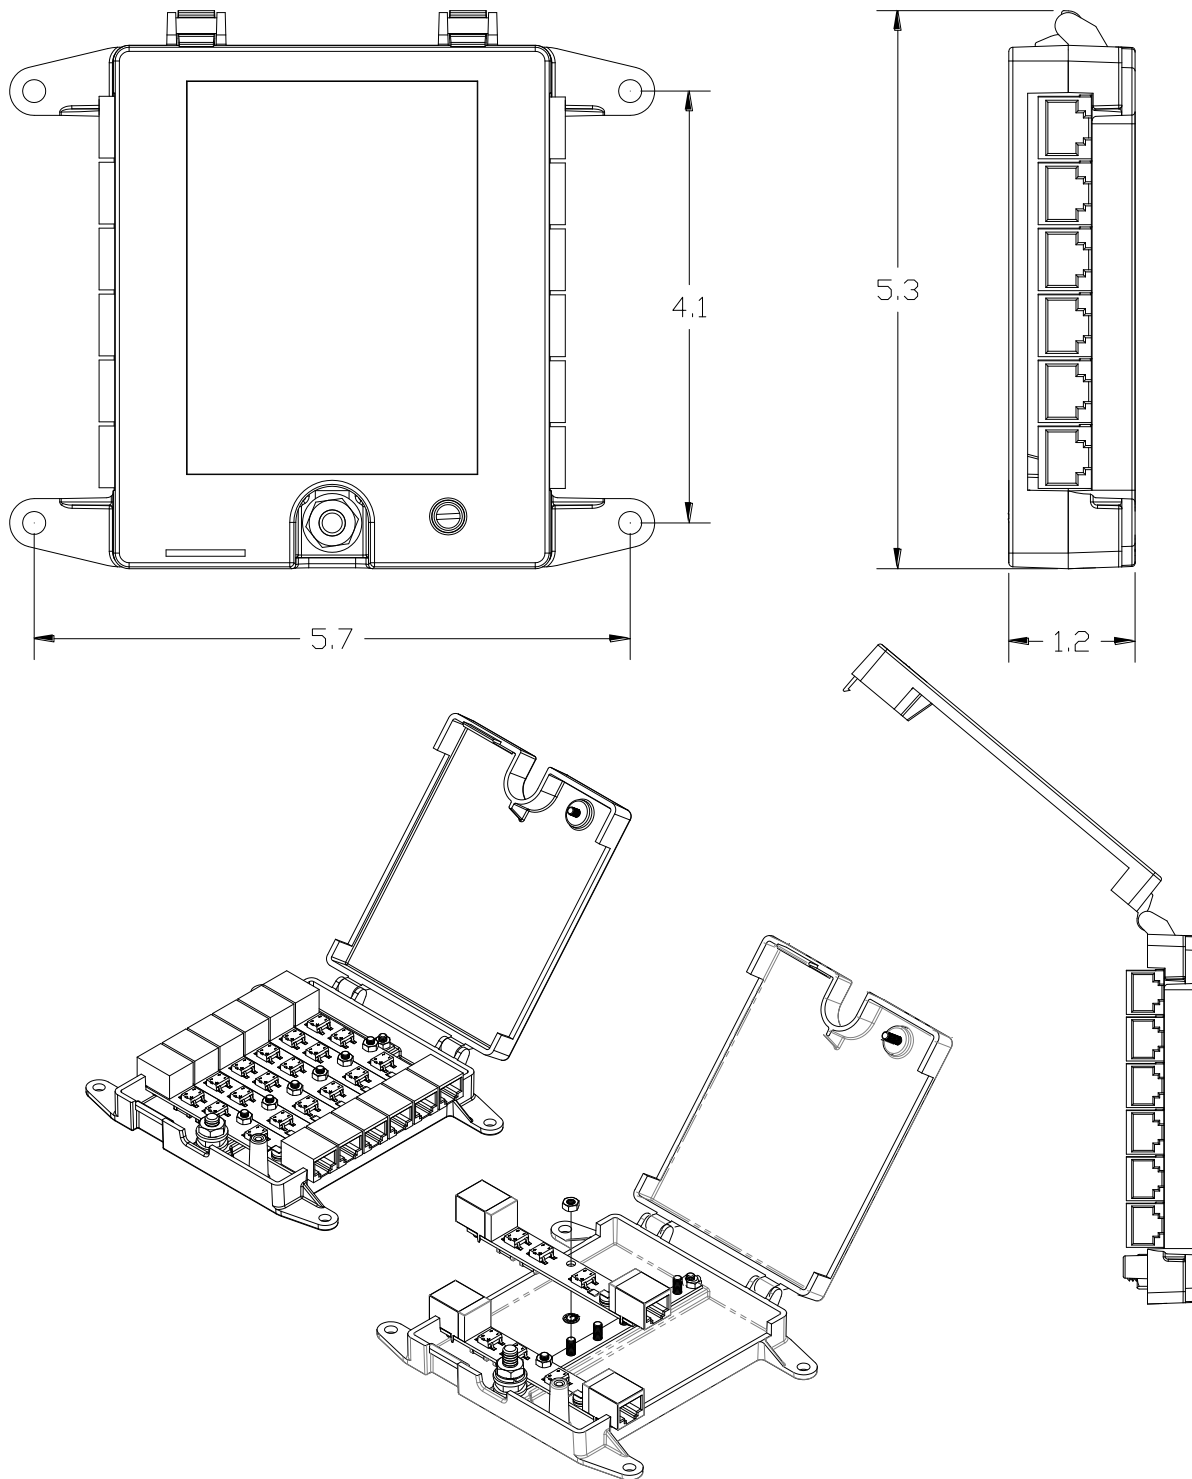

Figure 1. Mechanical outline drawing (inches)
- 5.3. **Dimensions** (see Figure 1 next page) 5.3" high , 5.7" wide, 1.2" deep (13.5 cm x 14.5 cm x 3.0 cm)